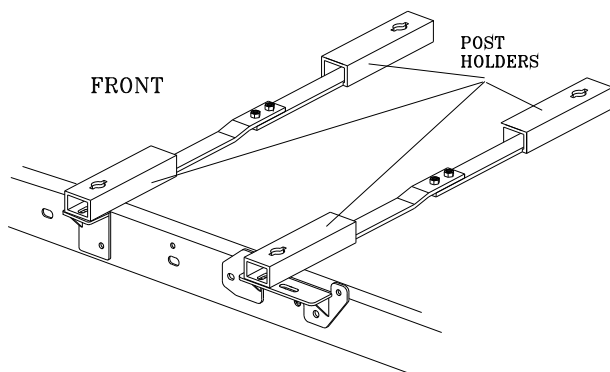

Figure 1
1. Slide the **drivers** side Front Post Holder (with weld nuts) over the frame just behind the gas tank. See Figure 1.